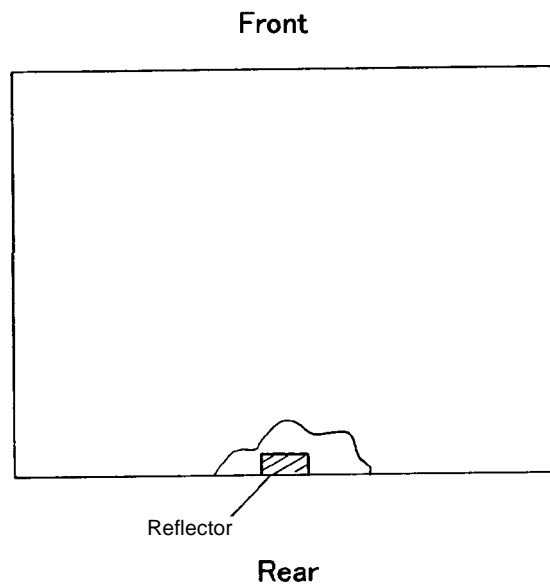

Figure 10 Installing Transfer Belt
1. Install Transfer Belt with Reflector at rear (Figure 10).